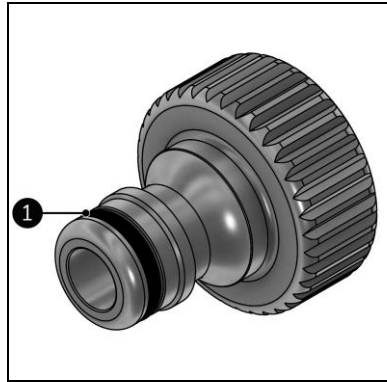

Figure 16
5. Apply Vaseline to the O-ring of the garden hose coupling (Figure 16, pos. 1).